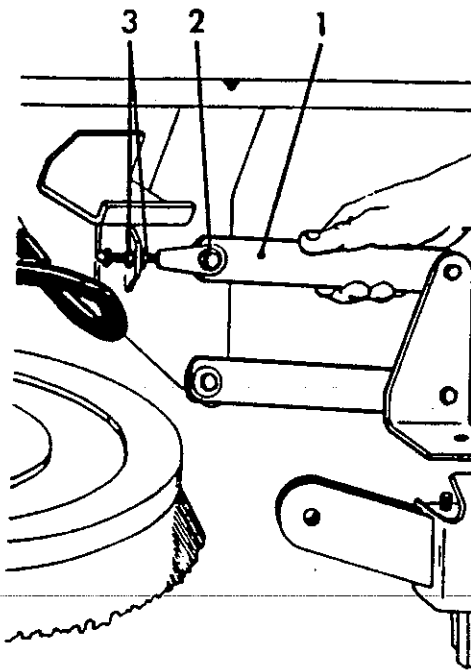

Figure 4-40. Squeegee Arms
8. Locate the squeegee arms (1) on each side of the machine, see figure 4-40.
9. Loosen the bolt (3) which attaches the upper squeegee arm to the squeegee mount plate on each side.
10. Locate and loosen both nuts (3) on each squeegee adjustment link and back them away from the gussets. The rear squeegee is now free to be aligned with the floor.